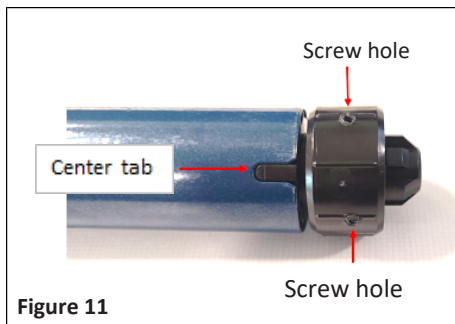

Figure 11
23. Insert the Vinyl Coated Cable located at each end of the Housing Assembly through the guide holes at each end of the EasyShade Drop Down Panel. See **Figure 11**.
17. Slide the black plastic bushing onto the end of the replacement motor, taking care to align the two small screw holes as shown in **Figure 11**.